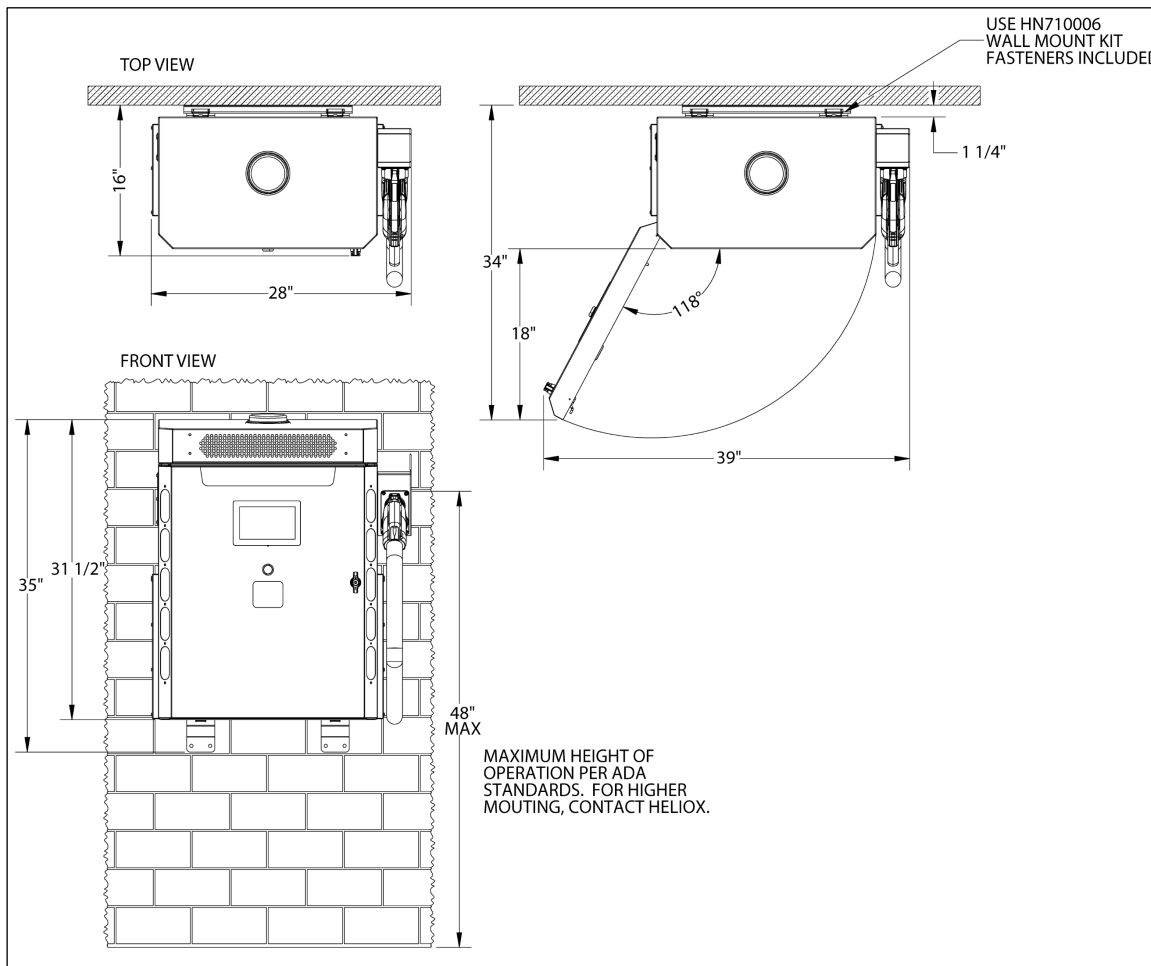

Figure 12: Dimensions wall mounted charger
3. Match drill the holes (3/4") (3x) through the wall bracket ⑤.
4. Install the wall bracket with 5/16"x 2-1/4" Tapcon HD masonry anchor (recommended) ⑥ (3x) at a maximum height of 48" (see Figure 12: Dimensions wall mounted charger).
12. Remove bolts ⑪ (6x) and the cable entry plate ⑫.
13. Drill the holes needed in the cable entry plate according to the dimensions suggested, see Figure 12.